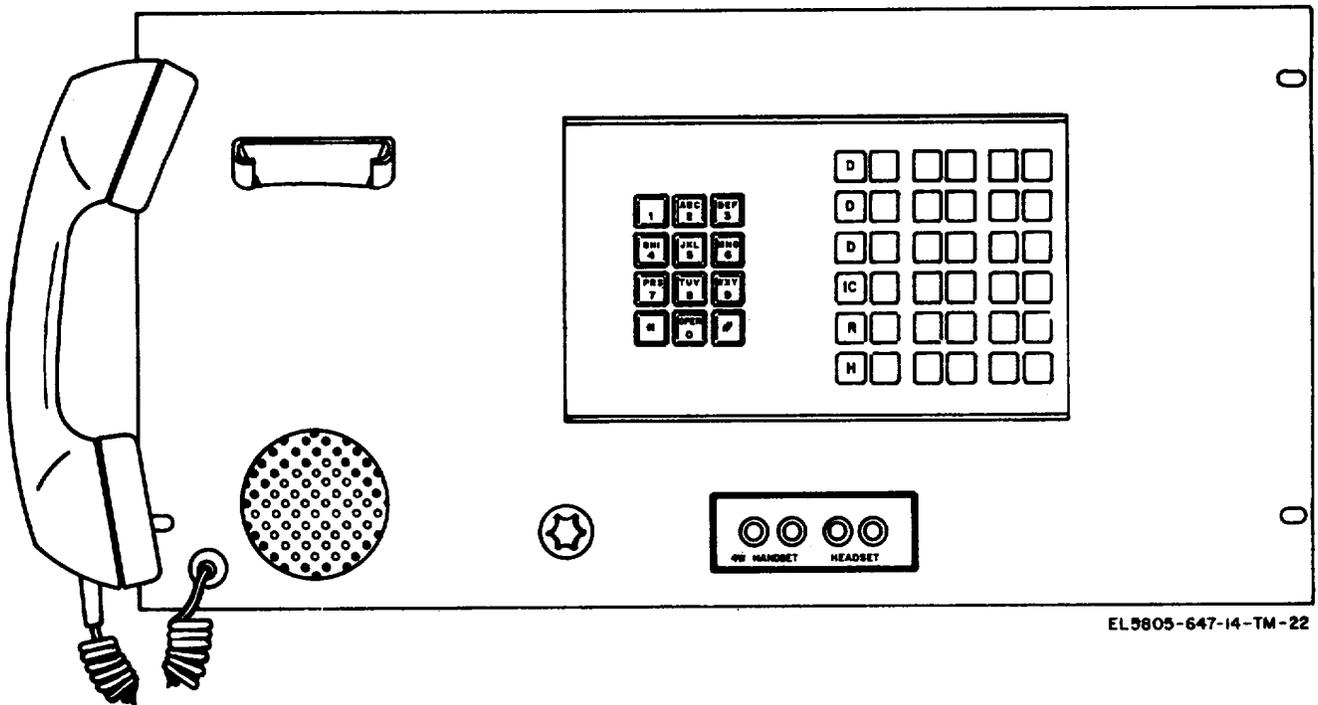

Figure 3-4. Remote Link Orderwire Unit TA-924/FSC (front view).
c. Remote Link Orderwire Unit (fig. 3-4).